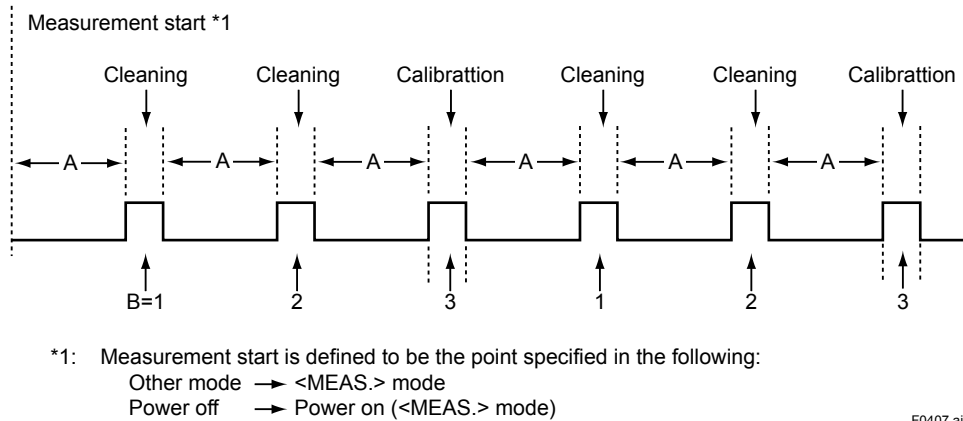

Figure 4.7 Cleaning (calibration) period (Example: for cleaning calibration ratio = 3)
The internal timer operation is shown in Figure 4.7.
- **Startup with the internal timer (see Figure 4.7).**